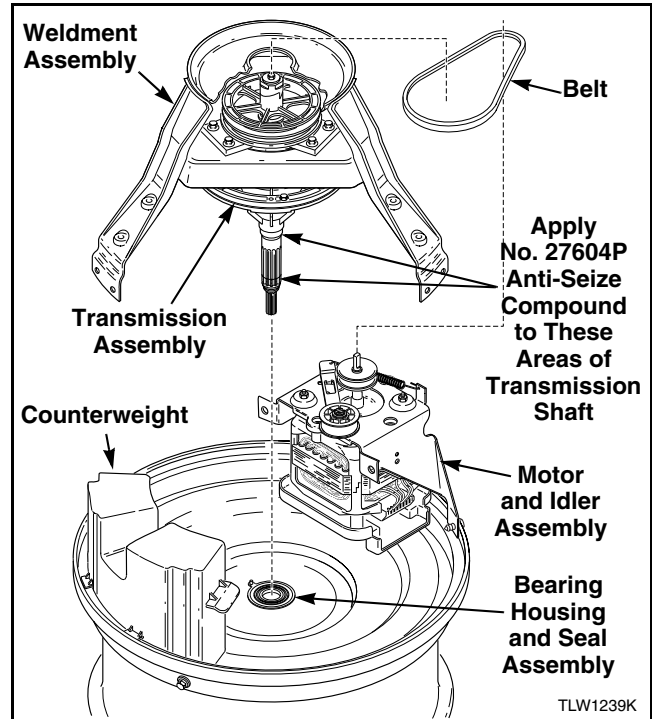

Figure 53
NOTE: Apply No. 27604P Anti-Seize compound to the area of transmission shaft that will be contacting the upper bearing and washtub hub. Refer to *Figure 53*.
- Carefully place the transmission shaft through bearing housing and seal assembly into outer tub. Refer to Figure 53.